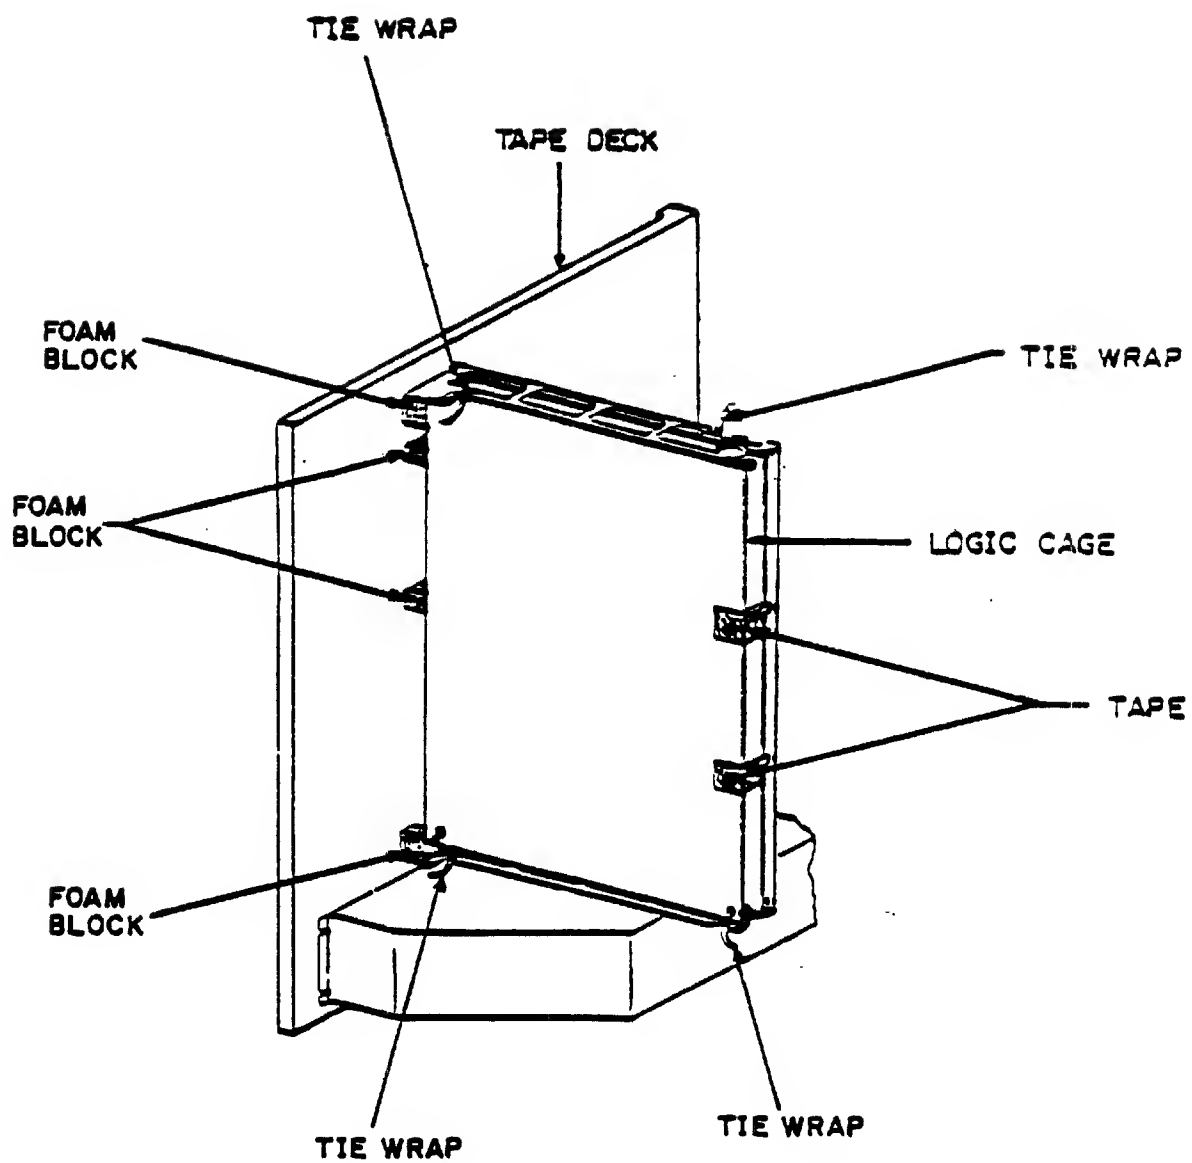

Figure 3-15. Tape Deck Shipping Material
18. Remove the filament tape and the tie-wraps from the PWAs. See figure 3-15.